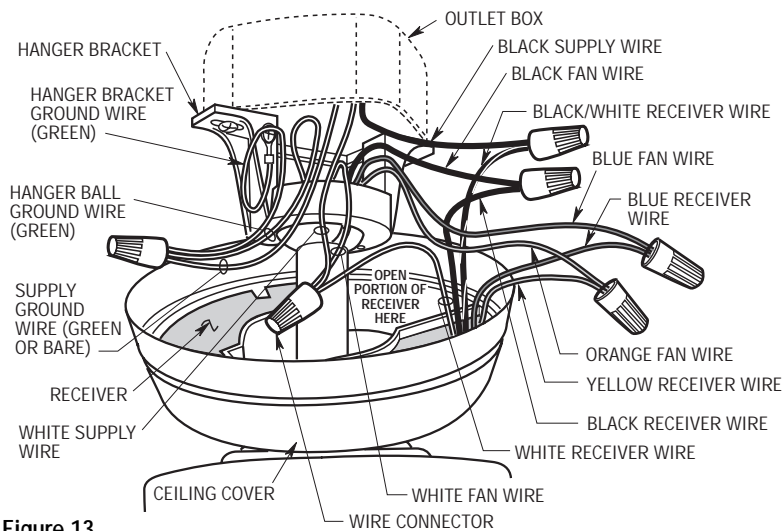

Figure 13
1. Pull the wire leads, coming from the end of the downrod, and the supply wires through the open side of the hanger bracket. (Figure 13).
2. Position the SW105 Receiver in the ceiling cover so that the flat side of the receiver faces up and the open portion of the receiver is to the right, as shown (Figure 13).
- 3. Using wire connectors (supplied), make wiring connections as follows (Figure 13 and 14):